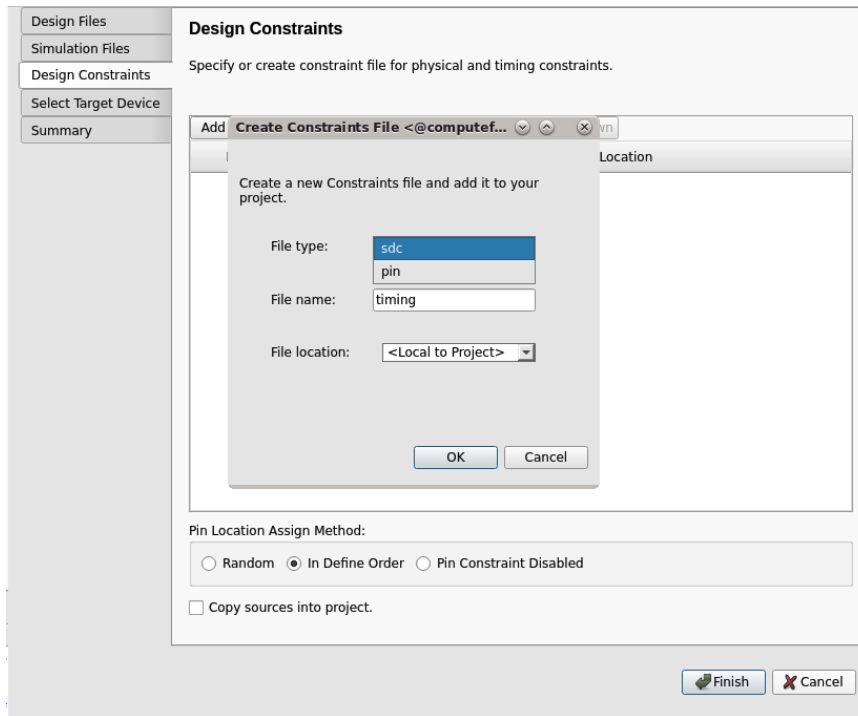

Figure 19: Timing Constraint File
- **Timing Constraints (\*.sdc):** This file specifies critical timing requirements for user design. To create (\*.sdc) file, select sdc as a File type and specify File name of the timing constraint file as shown in Figure 19.